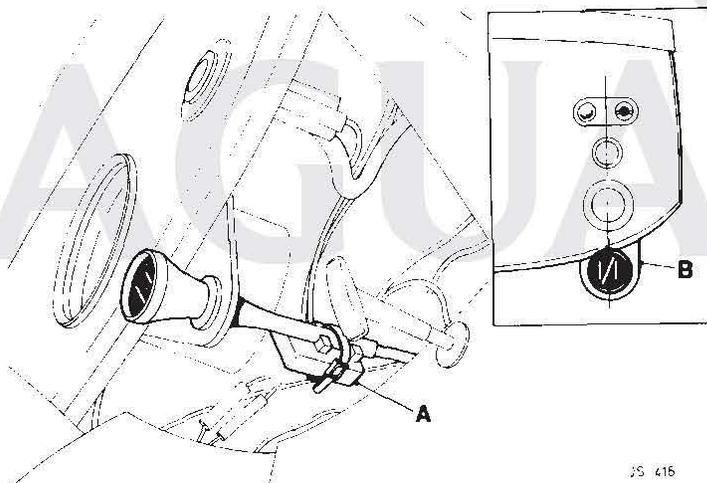

FIG 3
2. Fit and secure the operating switch to the choke cable with a ratchet strap (A Fig 3) and connect the warning light link harness between the switch and warning light.